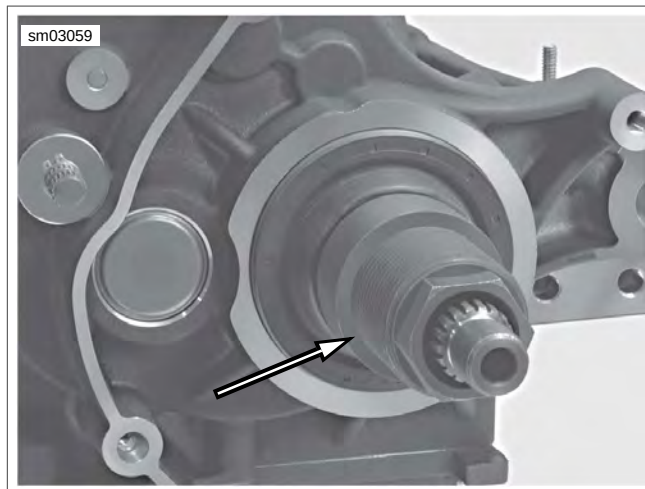

Figure 6-47. Install Adapter
4. See Figure 6-47. Thread ADAPTER (Part No. HD-47856-3) onto end of main drive gear until it contacts main drive gear.